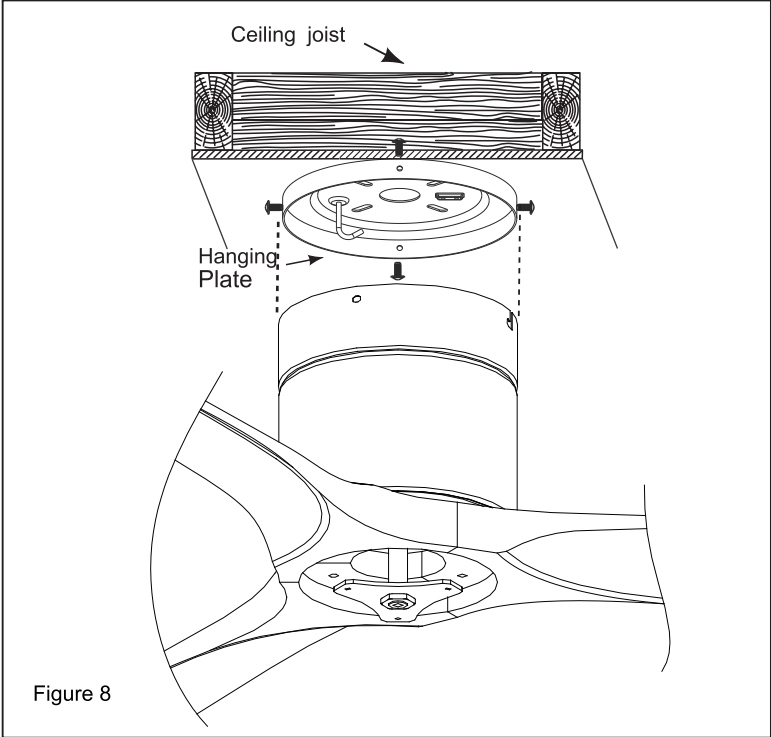

Figure 8
- 4.Hang the motor assembly onto the two pre-installed hanging bracket's screws, then install the other two hanging bracket's screws. (Figure 8)